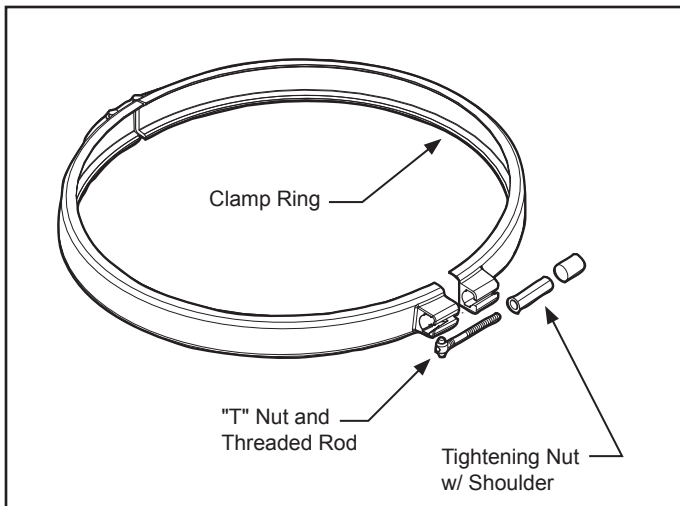

Figure 9. Filter Clamp Ring
- Place the "T" nut and threaded rod assembly into the clamp. Be sure the "T" nut is seated in the clamp in the proper orientation. See Fig. 9.
- Use a 9/16" socket on the tightening nut until the clamp ring halves touch each other, or are within 1/16", see Fig. 9 **but do not overtighten as the clamp can break**. If unable to tighten as indicated, do not operate the filter and **call a service technician immediately**.
- Check that the tank clamp is correctly seated and tight. See Figs. 9 and 10.